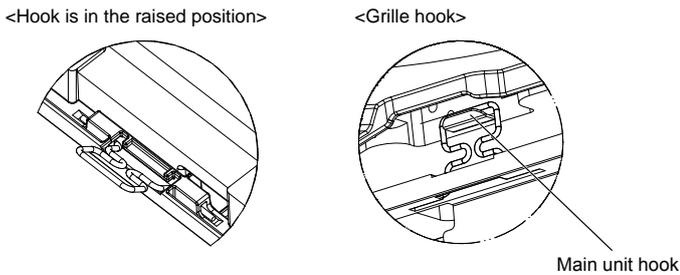

Fig. 10-5
- Align the screw holes in the corners of the grille with the screw mounting holes in the corners of the main unit, latch the two hooks on the grille onto the drain pan projections on the main unit, and temporarily hang the grille. (Fig. 10-5)
- When tightening the screw with captive washer ③, tighten it at a torque of 4.8 N·m or less. Never use an impact screwdriver. It may result in parts damage.
- After tightening the screw, confirm that the two grille hooks (Fig. 10-5) are latched onto the hooks on the main unit.